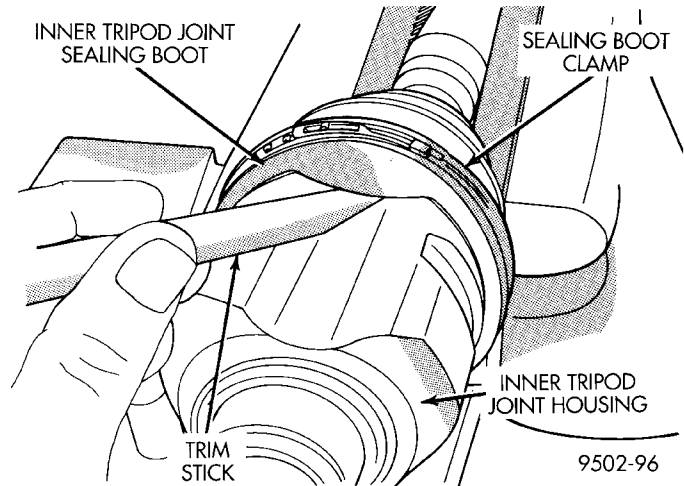

Fig. 37 Trim Stick Inserted for Venting Tripod Joint
(9) Insert a trim stick between the tripod joint and the sealing boot to vent inner tripod joint assembly (Fig. 37). **When inserting trim stick between tripod housing and sealing boot, ensure trim stick is held flat and firmly against the tripod housing.** If this is not done, damage to the sealing